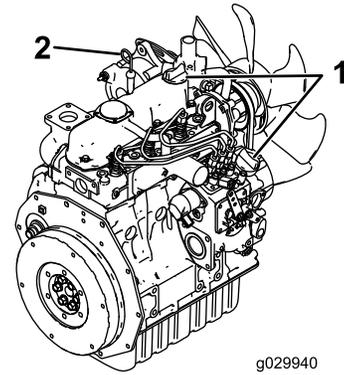

Figure 43
- Clean the area around the oil dipstick and oil-fill cap (Figure 43).